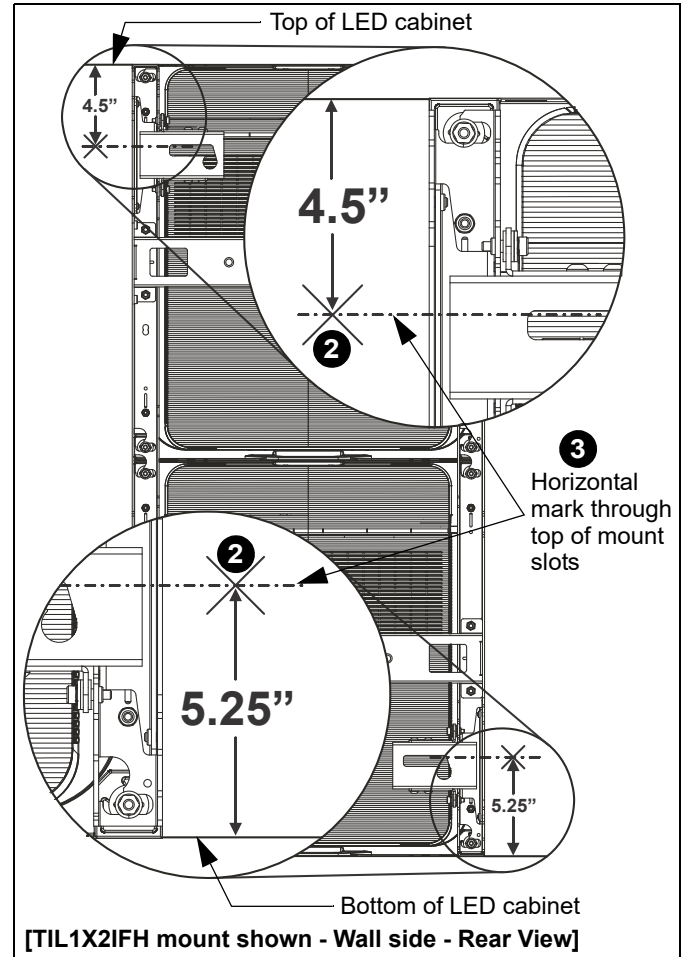

Figure 4
IMPORTANT ! : The top of the LED panel is 4.5" above the top of the **UPPER** mounting slots, and the bottom of the LED panel is 5.25" below the top of the **LOWER** mounting slots. (See Figure 4)
1. Determine top or bottom panel height location and horizontal placement of mounts. (See Figure 4)
2. Make a mark 4.5" **below** the planned top edge (or 5.25" **above** the planned lower edge of the LED wall. (See Figure 4)
NOTE: This line will be located at the top of the mounting slots across the width of the LED video wall. The oversize mounting slots will allow some upward adjustment as needed. (See Figure 4)